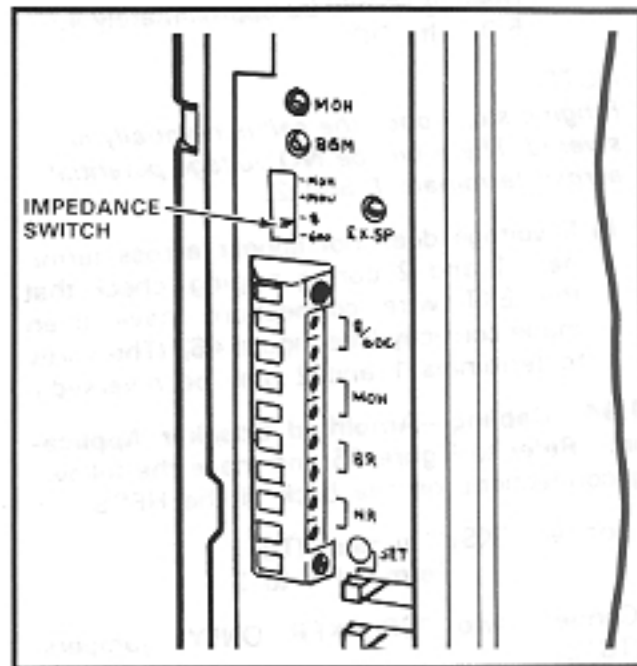

FIGURE 48—IMPEDANCE SWITCH
10.32 The 8-ohm output impedance must be selected with switch SW2 on the HKSU (Figure 48). The switch must be on the side labeled 8.